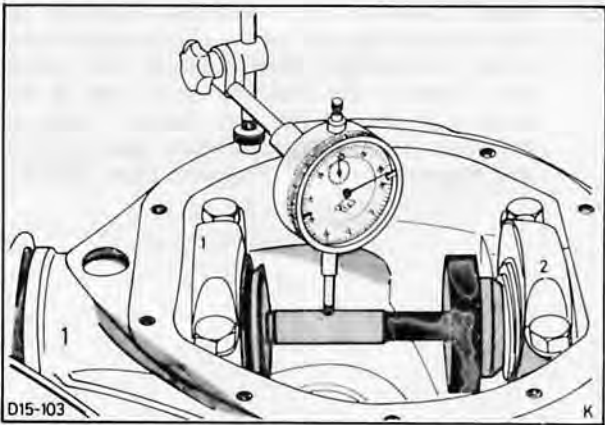

Fig. 72. Adjust gauge bar
20. Secure dial indicator 15-046 with holding fixture 15-008-01, to axle casing and position plunger of dial indicator on middle of gauge bar, Fig. 72. Turn bar slowly and observe total deflection of dial pointer. Then turn gauge bar until dial indicator reading is half the measured deflection. After this the gauge bar must not be moved.